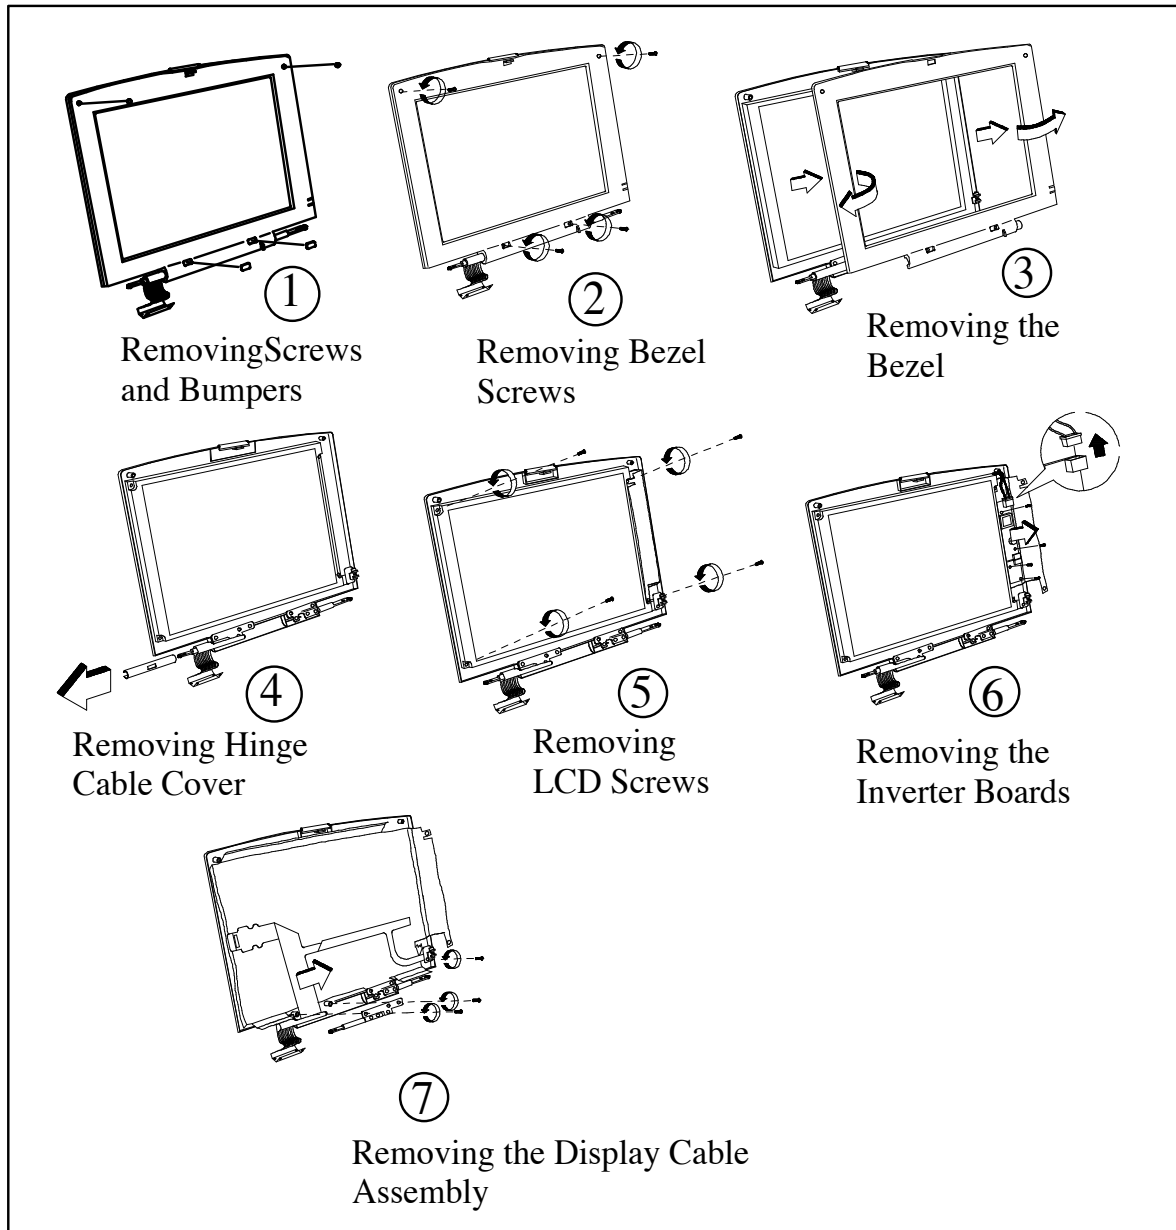

Figure 6-29 Display Unit Disassembly
2. Remove the round LCD bumpers at the top of the display (refer to Figure 6-29).
4. Remove four screws on the Display Bezel (Figure 6-29).
2. Gently fold back the foil around the LCD and unplug Inverter Cable CN2 (refer to Figure 6-29).
2. Slide out and remove the Hinge Cable Cover (Figure 6-29).
3. Remove four screws on the four sides of the LCD panel (Figure 6-29).
6. Refer to Figure 6-29 and tilt the LCD panel away from the Display Cover.